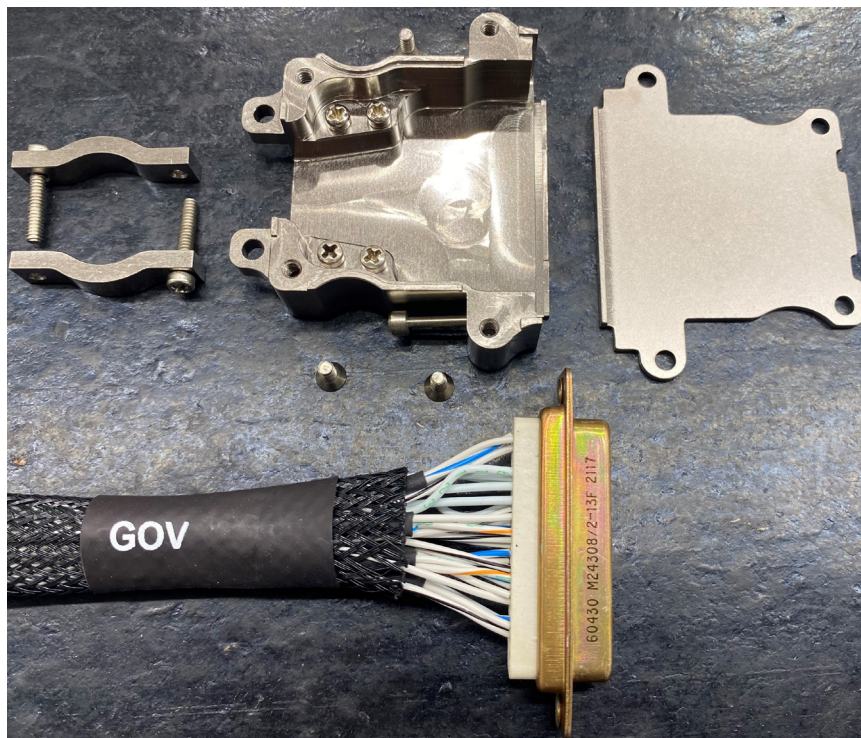

**FIGURE 1 Location of sensor & bracket**
4. Refer to Figure 1. Disconnect C143 sensor assembly from airframe harness, cutting ty-raps as required. Remove & retain hardware securing C357-5 clip assembly. Remove sensor assembly and gasket; retain hardware. Temporarily cover engine openings. Discard (4) internal teeth lockwashers, MS21919WDG3 clamp & attaching screw, and clip assembly.